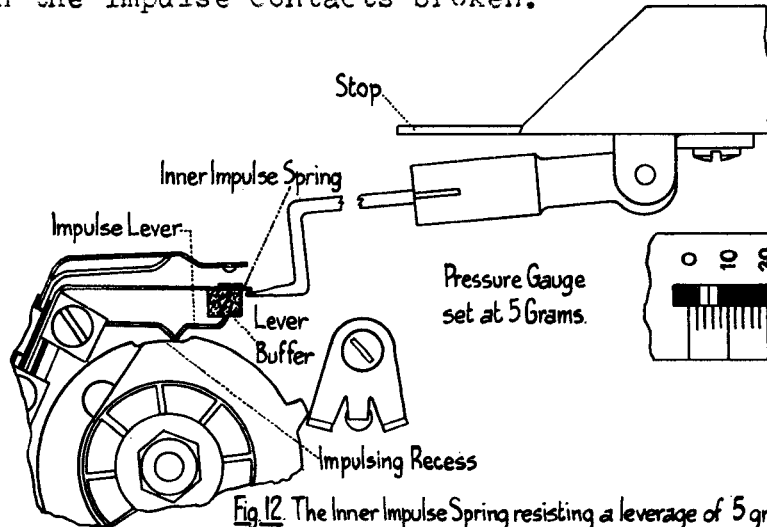
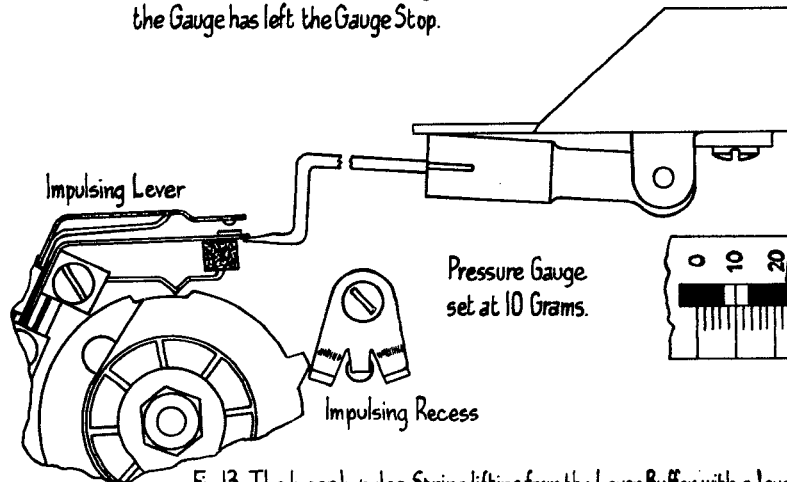

Fig.12 The Inner Impulse Spring resisting a leverage of 5 grams when the Impulsing Lever is resting in the Impulsing Recess.
Fig.13 The Inner Impulse Spring lifting from the Lever Buffer with a leverage of 10 grams when the Impulsing Lever is resting in the Impulsing Recess.
2.7 The inner impulse spring should be straight and should be tensioned at the base so that it will resist a leverage of 5 grammes (Figure 12) and lift from the buffer of the impulse lever with a leverage of 10 grammes (Figure 13) applied at the tip of the spring with the impulse contacts broken.